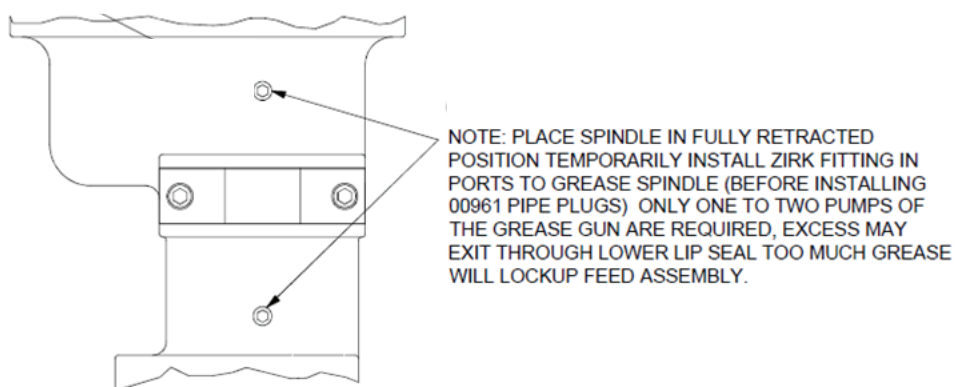

Figure 4
5. To grease between main housing bore (item 73) and the ram outer diameter (item 26), 1 - 2 pumps of grease are required at these locations. Too much grease will lockup the feed assembly (See figure 4 below).